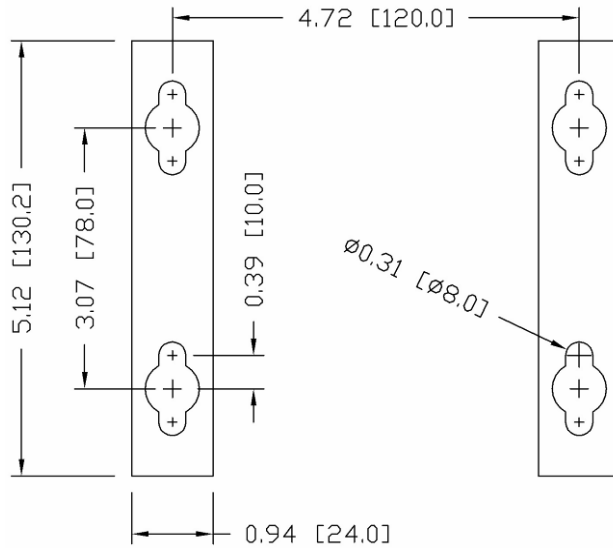

Figure 2-23: Mounting Hole Pattern
4. Mark the position of the mounting holes on the vertical surface per the dimensions shown in Figure 2-23.